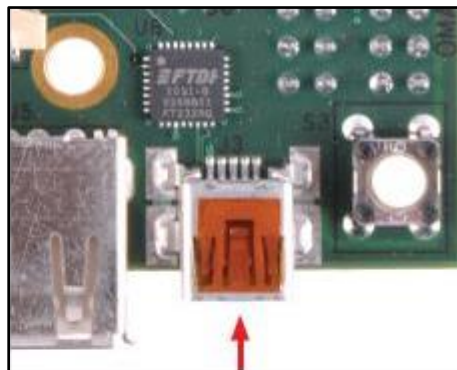

Figure 4. UART-to-USB Port
2. Connect the supplied mini USB cable to J3 on the LCDK, as shown in Figure 4. Connect the other end of the cable to a USB port on your host computer.